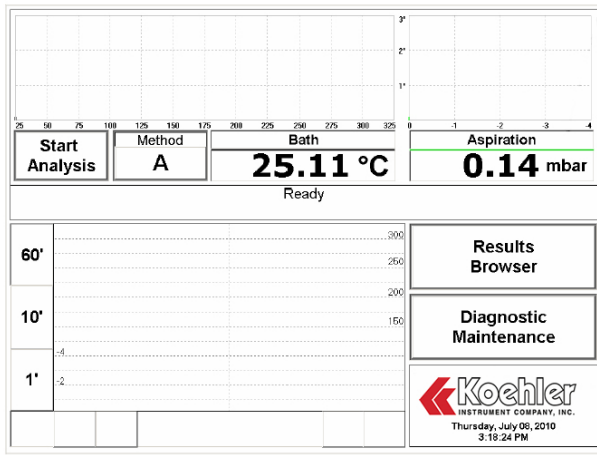

Figure 5: Diagnostic Maintenance Panel
- From the main menu screen (See Figure 5 below) select Diagnostic Maintenance.
1. Press the **Start Analysis** button on the main menu screen (Figure 5) to open the analysis startup panel. See Figure 8 below: